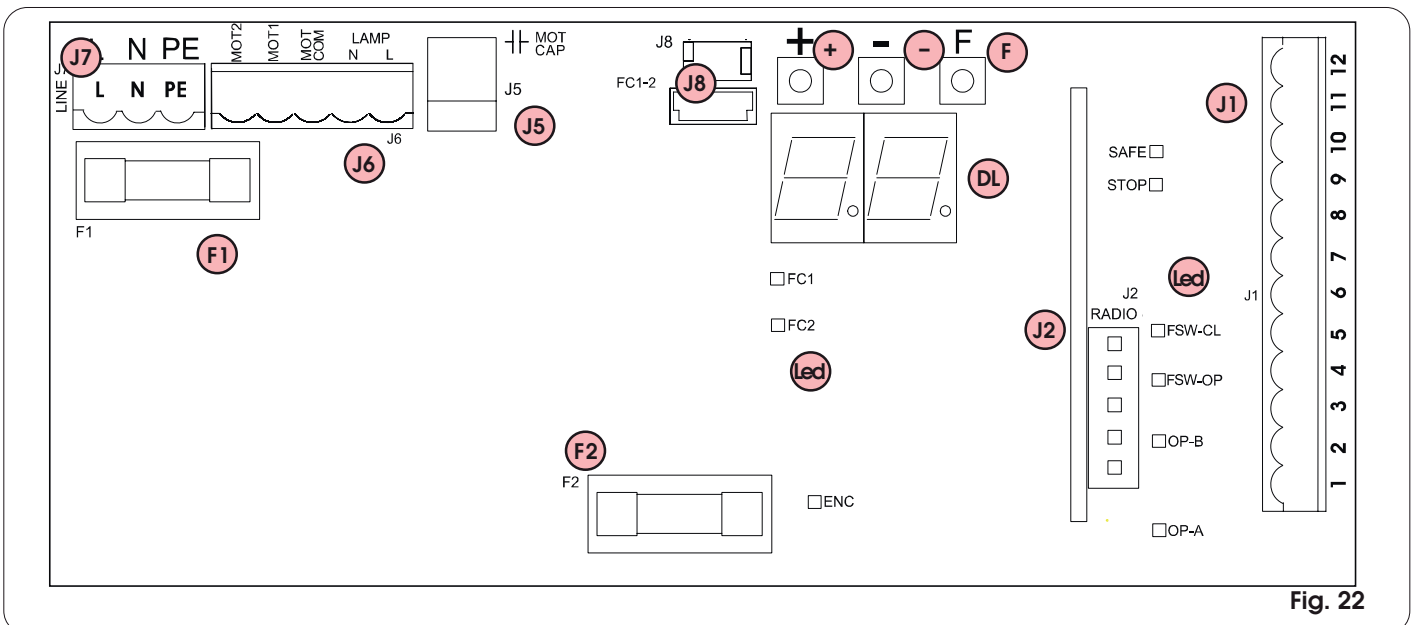

Fig. 22
- Connect the earth cable to the terminal on J7 connector of the board, and to the bush on the operator (figs. 22 and 40).
| Protection fuses | 2 (see fig. 22 and par. 5.3) |